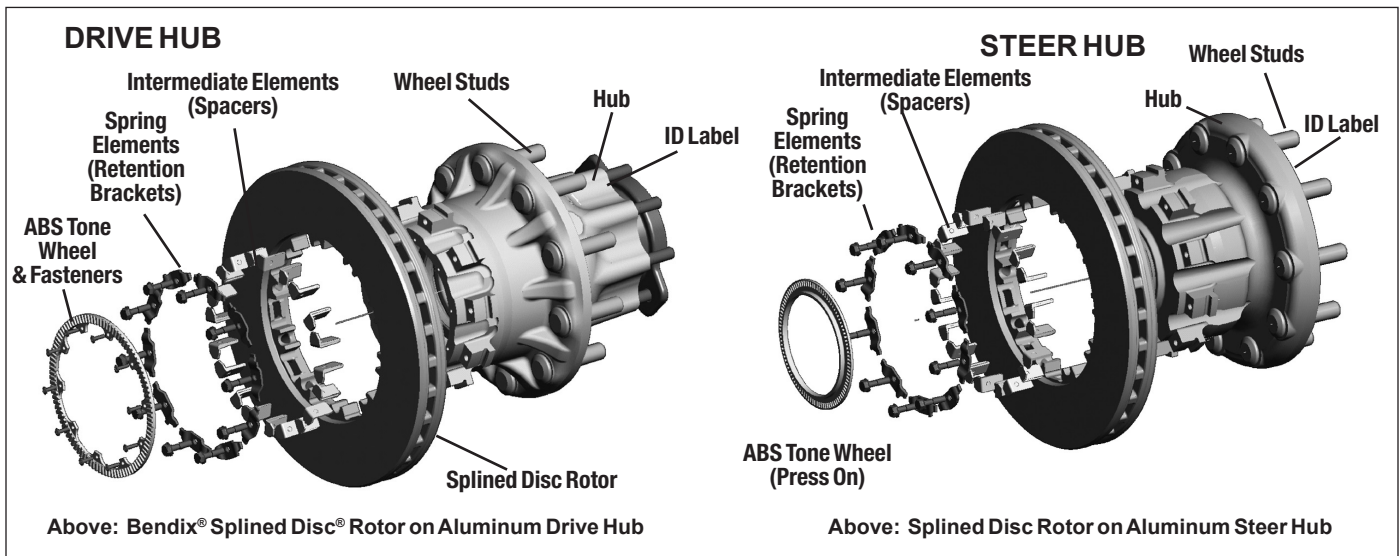

Figure 87 – Splined Disc Rotor Examples - Exploded Views
- 5.7.7 On drive axles, the ABS tone ring must also be removed. (See Figure 87.) Retain for reinstallation.